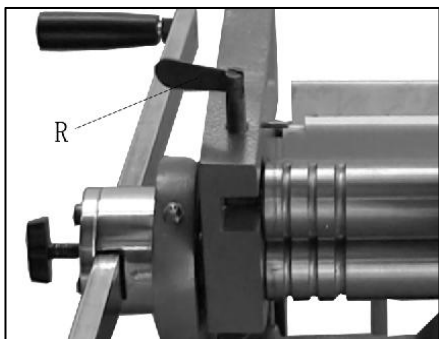

Figure 12
1. Loosen bolt (R, Figure 12)
4. Re install upper roll, and tighten bolt (R, Figure 12).